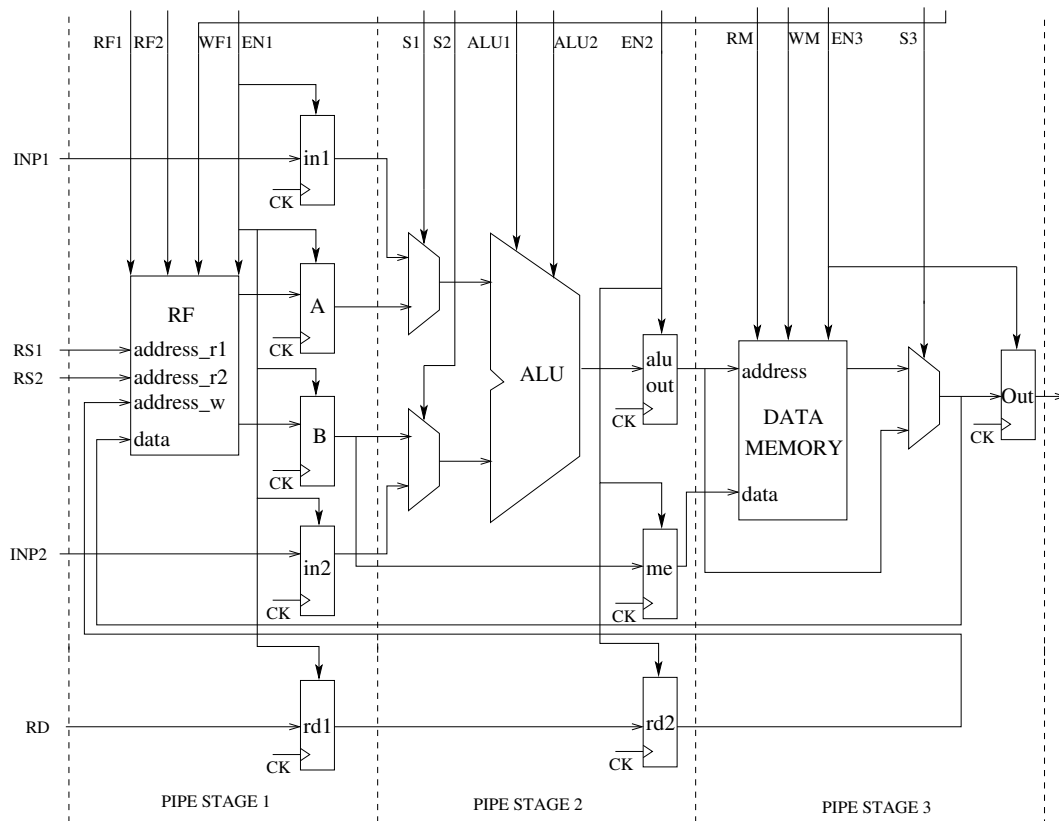

Figure 4.1: Schematic of a simplified implementation of a DLX processor.
The DLX processor (*see cap.2 and 3 of Hennessy-Patterson*) is a simple *load-store* architecture with a set of 32 General Purpose Registers (*GPRs*), each with a parallelism of 32-bits. A slightly simplified version of its datapath is shown in Figure 4.1.
- In the third pipeline stage, a *Memory* is used to load/store data. It is a simplified Register File with one port for reading and one for writing. The address is generated by the ALU, while the input data come from the delayed output of the register B (see Figure 4.1). A *multiplexer* is considered to select the data that will be written into the Register File belonging to the first stage, and which is located between the output of the Memory and the DLX output. One register is used for pipelining. Four control signals are used in this pipe stage: